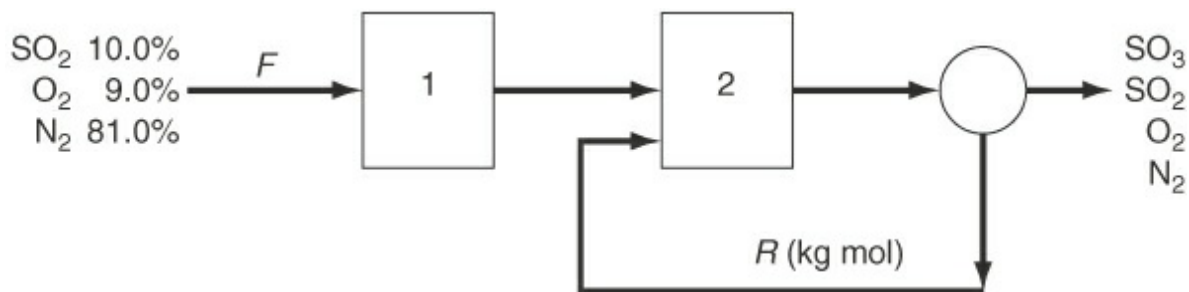

Figure P5.3.21
***5.3.21 Sulfur dioxide may be converted to SO_3 , which has many uses, including the production of H_2SO_4 and sulfonation of detergent. A gas stream having the composition shown in Figure P5.3.21 is to be passed through a two-stage converter. The fractional conversion of the SO_2 to SO_3 (on one pass though) in the first stage is 0.75 and in the second stage, 0.65. To boost the overall conversion to 0.95, some of the exit gas from stage 2 is recycled back to the inlet of stage 2. How much must be recycled per 100 mol of inlet gas (stream F)? Ignore the effect of temperature on the conversion.